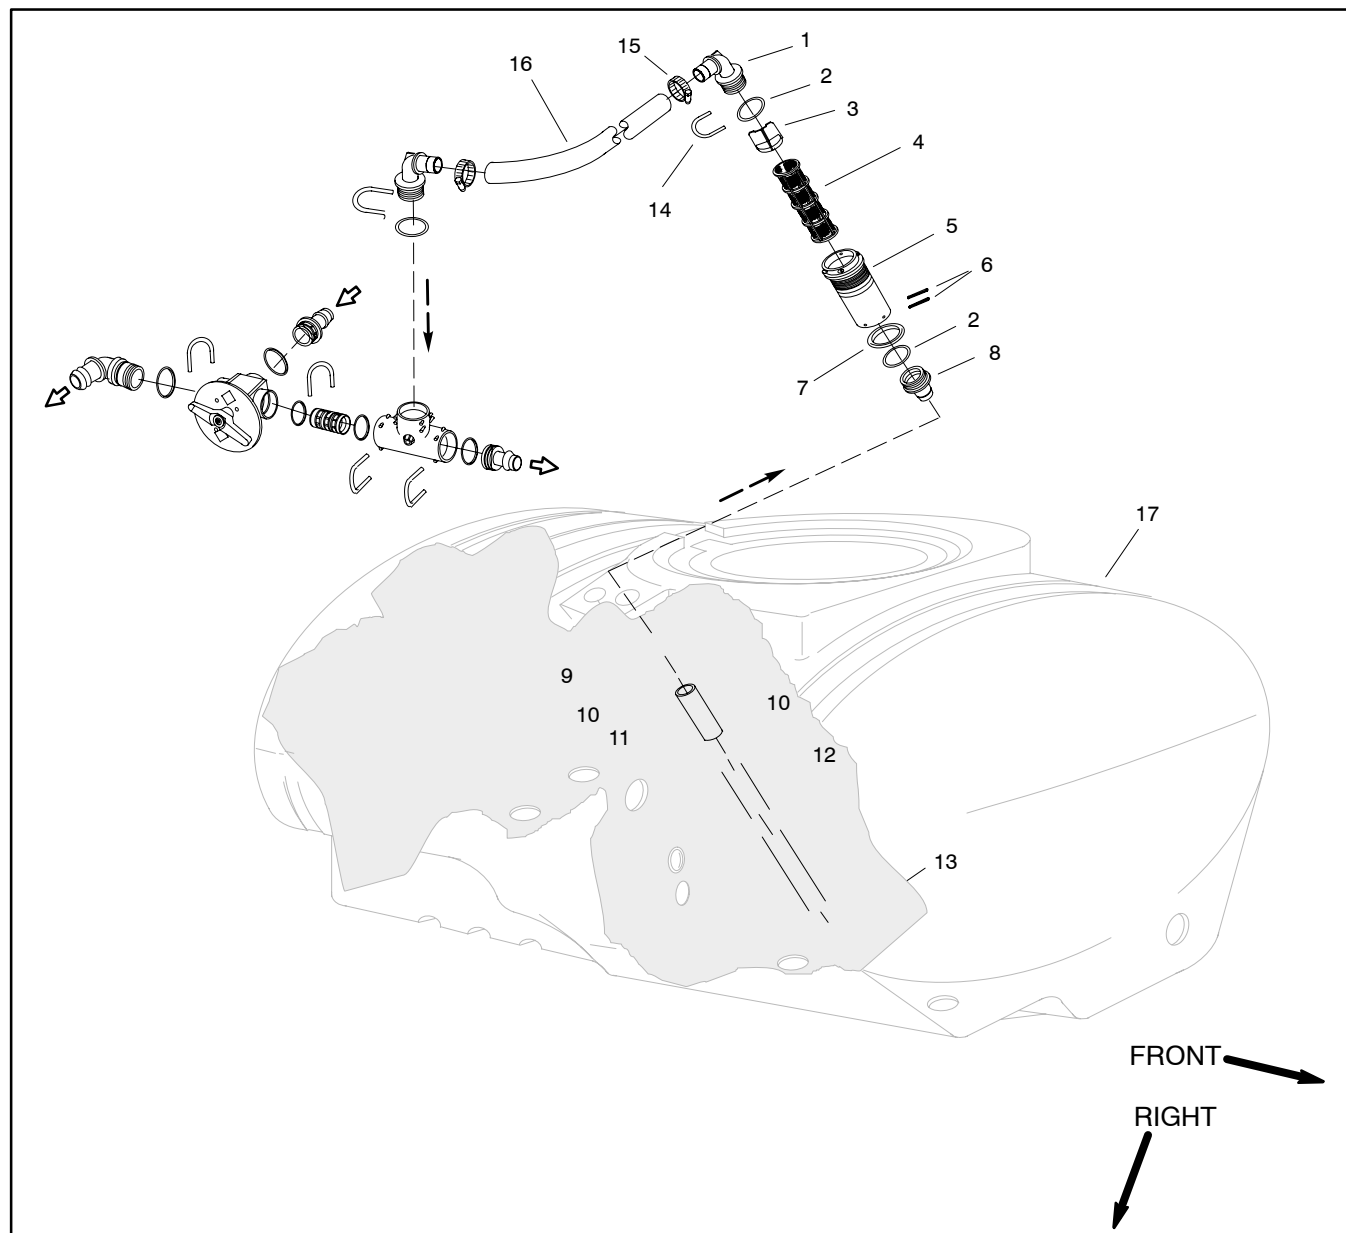

Figure 48
Removal (Fig. 48)
4. Remove suction tube assembly from spray tank and disassemble tube using Figure 48 as a guide. Discard all removed o-rings and gaskets.
Assembly (Fig. 48)
1. Assemble and install suction tube assembly using Figure 48 as a guide. Replace all removed o-rings and gaskets.